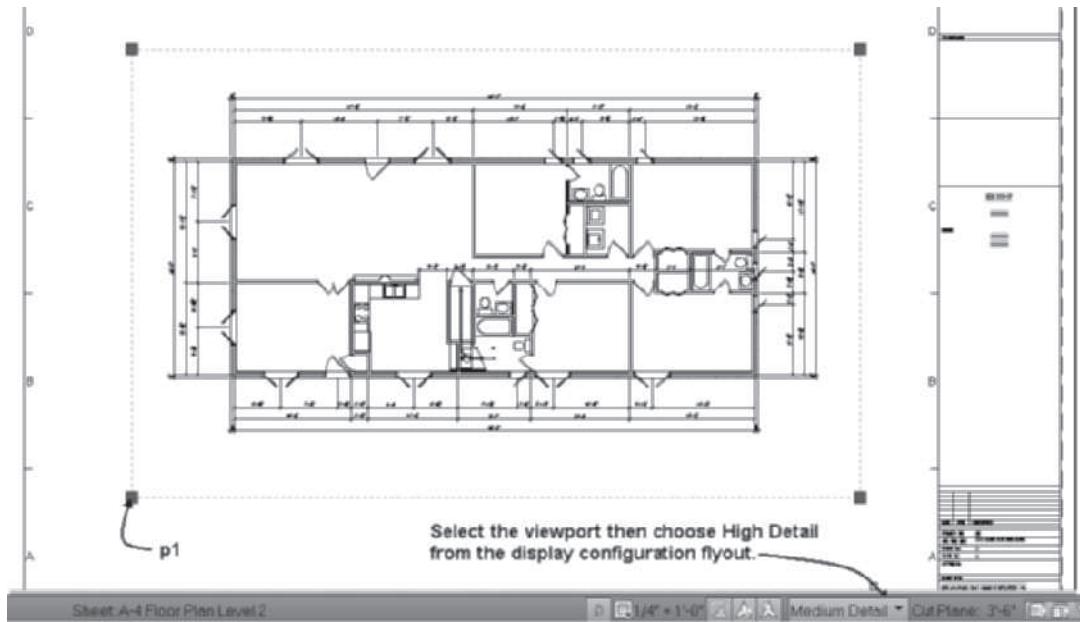

FIGURE 11.98 Edit viewport properties of a sheet
22. Select the **Views** tab. Select the **Floor Plan** model space view, right-click, and choose **Place on Sheet**. Move the cursor to the sheet and click near point **p1** as shown in Figure 11.98.